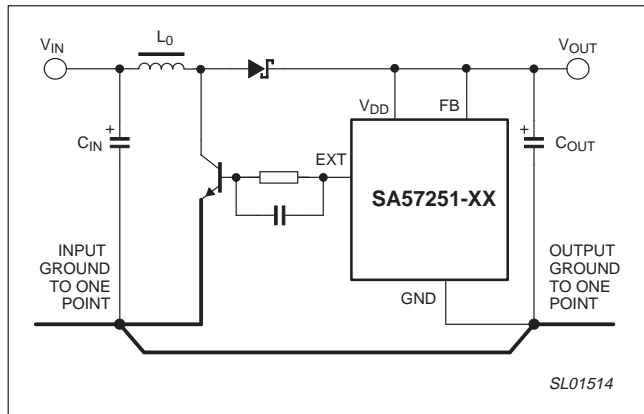

Figure 25. Grounding trace for converter.
The input and output capacitors are the only source or sink of the high frequency currents found in a switching power supply. All connections to the switching power supply from the outside circuits should be made to the input or output capacitor terminals (+ and -). Internally, the layout should adhere to a "one-point" grounding system, as shown in Figure 25.
- Strictly adhere to the one-point wiring practices shown in Figure 25.